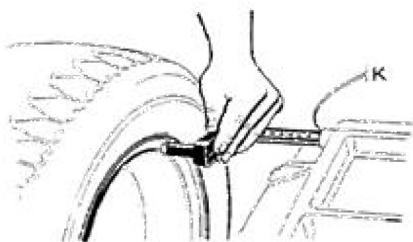

Fig.1
■ Move gauge to touch edge of rim (Fig.1), read the value of distance, press  and  to change, set “a”